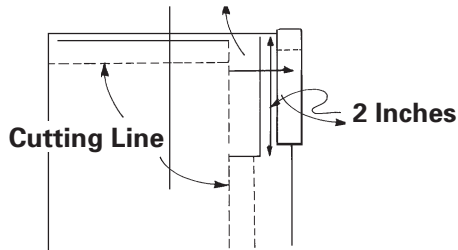

Fig. 21-10
1. Pretrim about 2 inches (5 cm) along the seam line of the adjacent edge you plan to serge, so you'll know exactly where to stitch once you turn the corner. (Fig. 21-10)